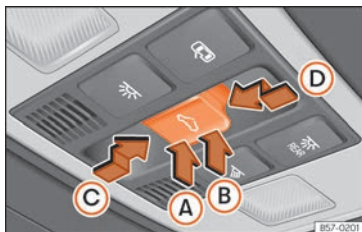

Fig. 148 On the interior roof lining: sunroof button.
The  button **Fig. 148** has two levels. The first level switches the sunroof to the tilted position, opening or closing it fully or partially.
- **Sunroof:** within approximately 5 seconds of having activated the roll-back function, press the  button **»» Fig. 148** to the second level in the direction of arrow **»» Fig. 148**  until the sunroof closes completely.